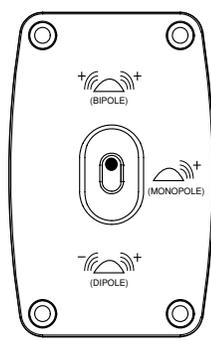

Figure 6. Surround Mode configuration switch.
When used as a rear channel speaker in a 6- or 7-channel system, it is recommended that the Surround Mode Configuration Switch be set to Bipole, as shown in Figure 6.
6. Set the Surround Mode Configuration switch to the Bipole position (Figure 6).